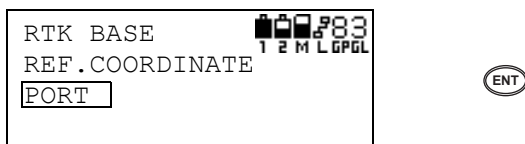

Figure 3-60. Select Format and Press Enter
- From the RTK BASE menu, use the **up/down cursor key** to select PORT, then press **ENT** (Figure 3-60).